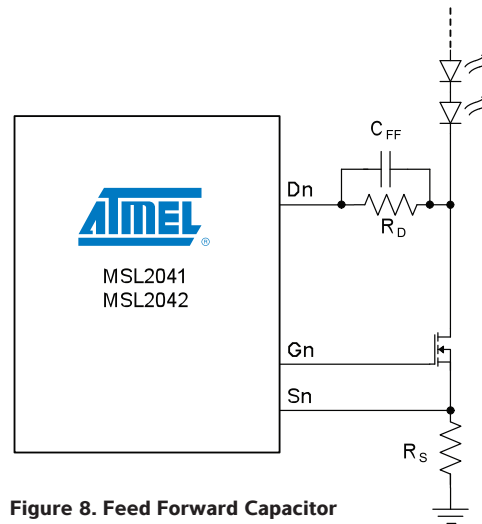

**Figure 7. Test Circuit for Determining  $V_{F(DARK)}$**
Set up the test circuit of Figure 7. Adjust  $R_1$  until the current meter indicates  $I_{DARK}$  (choose  $I_{DARK} < 1\text{mA}$ ). Use a volt meter to measure the voltage at the anode of the LED (A), and then at the cathode of the LED (B). Subtract the voltage measured at B from that measured at A to determine  $V_{F(DARK)}$ . Some typical values determined using this method are listed in Table 2.
**Table 2. Some Typical  $I_{DARK}$  and  $V_{F(DARK)}$  Values Determined Using Figure 7**